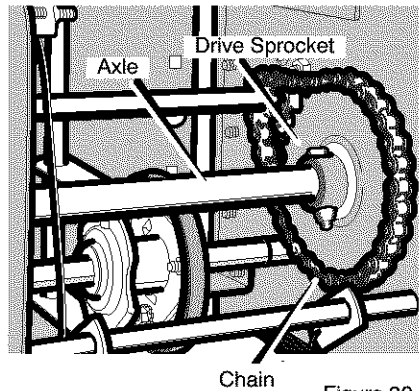

Figure 32
7. Remove the fasteners that secure the **drive sprocket** to the **axle** (see Figure 32).
16. Install the left wheel, **axle**, and **drive sprocket** with the fasteners removed earlier. Install the **chain** onto the **drive sprocket** (see Figure 32).